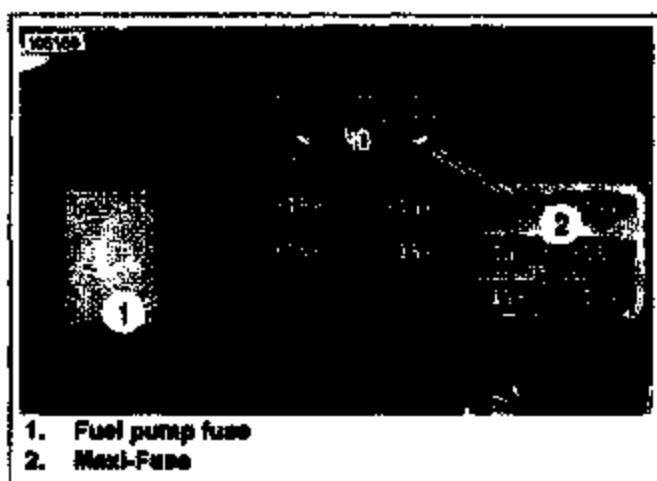

Figure 1. Fuel Pump Fuse and Maxi-Fuse
- a. See Figure 1. Disconnect the fuel pump fuse (1) from the main wiring harness.
- c. When the engine stalls, operate the starter for three (3) seconds to remove any remaining fuel from the fuel lines.
5. See Figure 1. Install fuel pump fuse (1).
6. Install Max-Fuse (2) and electrical caddy cover.